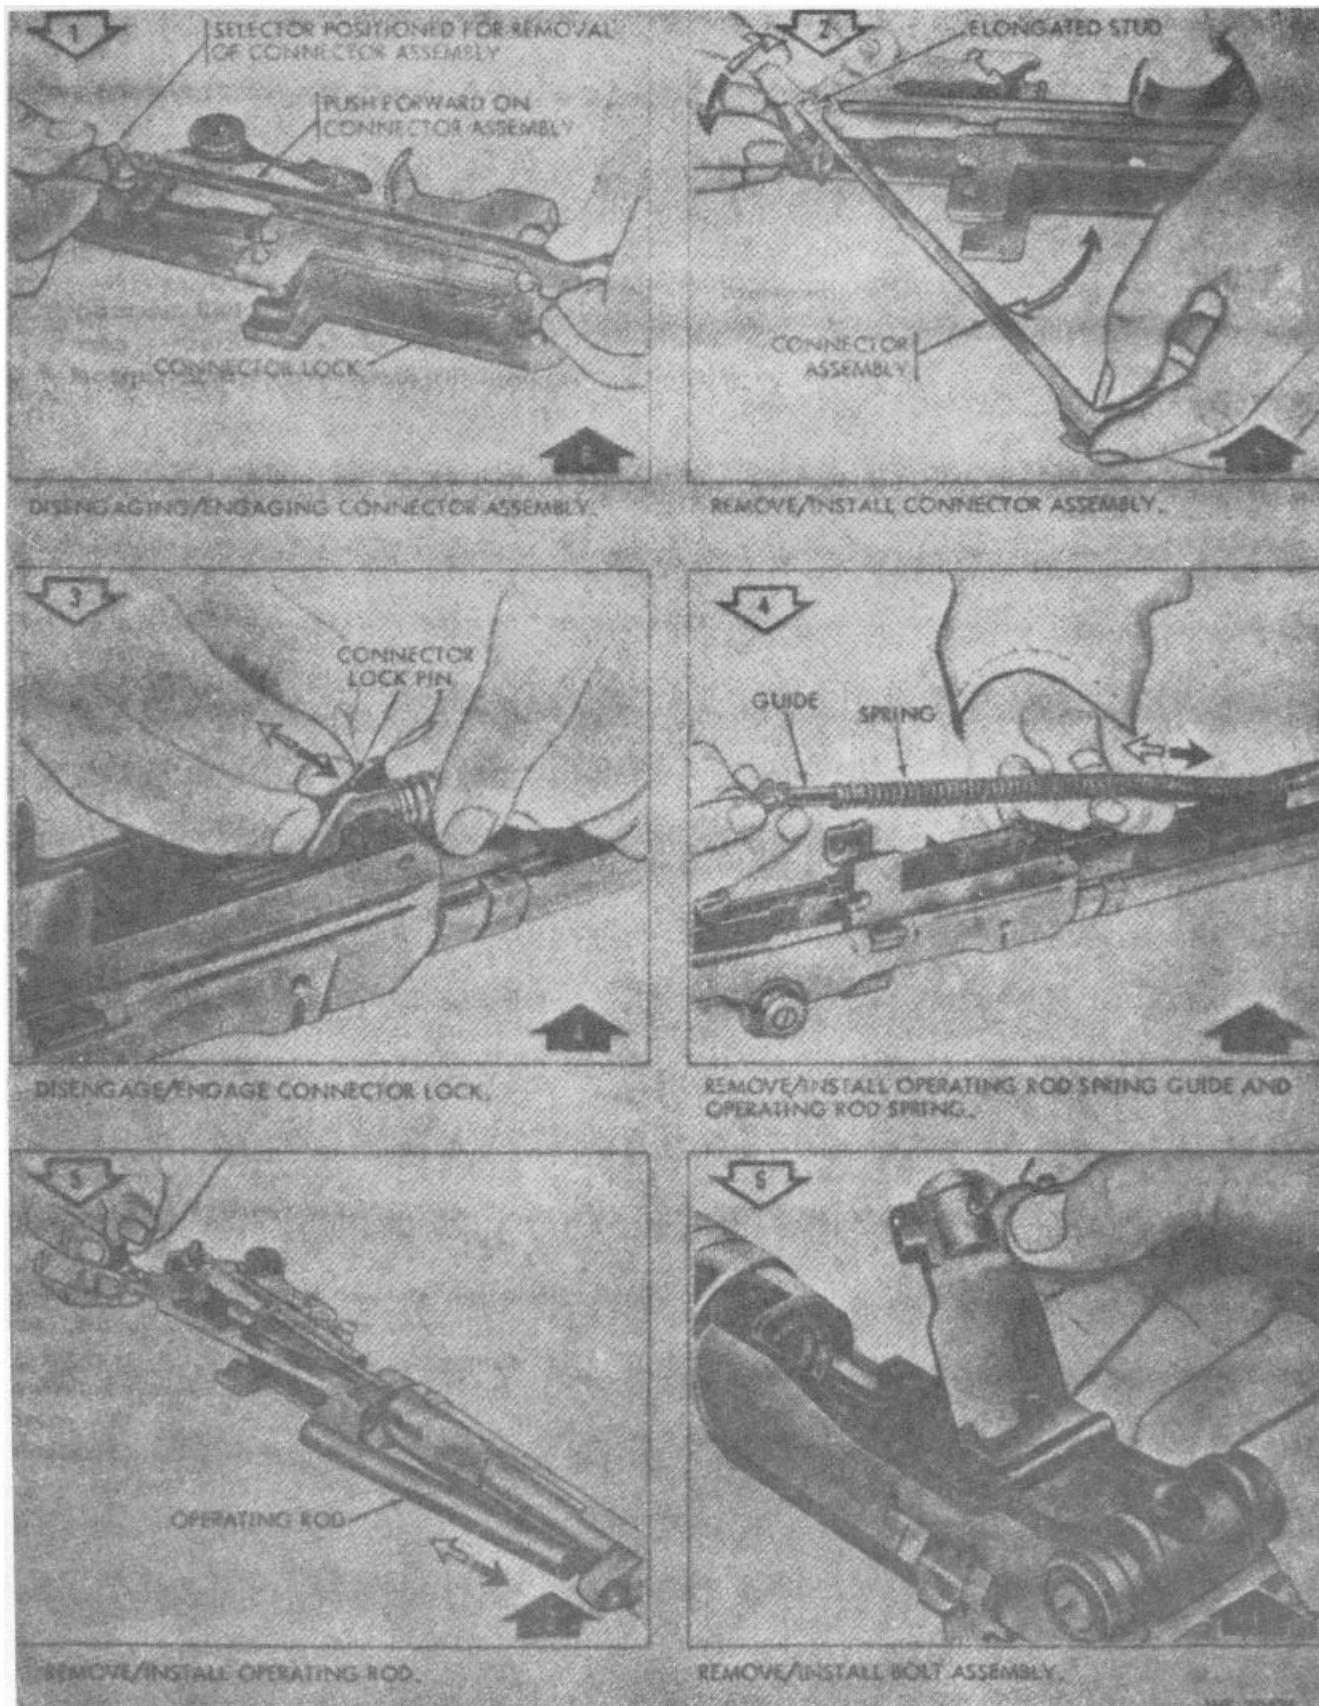

Figure 2-5. Remove/install operating rod and connector assembly.
- Removal/installation. Refer to figure 2-5.
a. Removal. Refer to figures 2-5, 2-6, and to TM 9-1005-223-10.